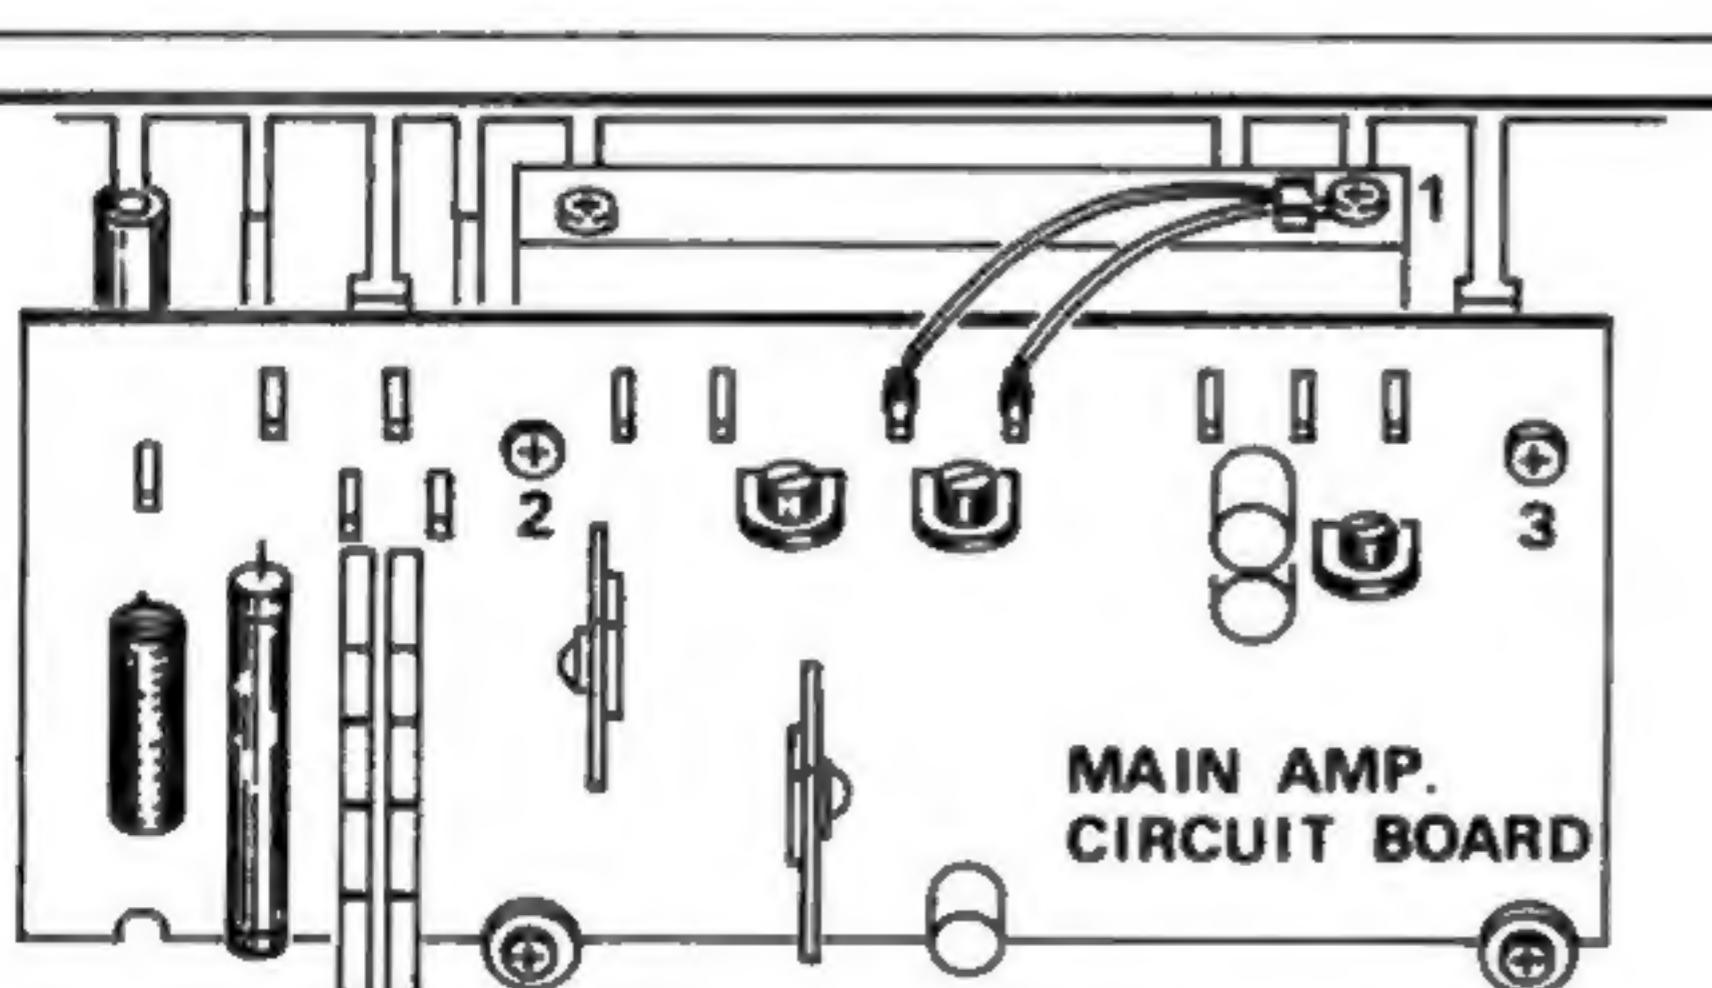

Fig. 1-9 CHASSIS TOP VIEW (MAIN AMP. PORTION)
- After completing procedures 1 and 2, detach varistor by unscrewing the varistor mounting screw (1) in Fig. 1-9, and unscrew Main Amp PCB mounting screws (2) and (3) in Fig. 1-9. Remove the PCB by pulling it upwards.